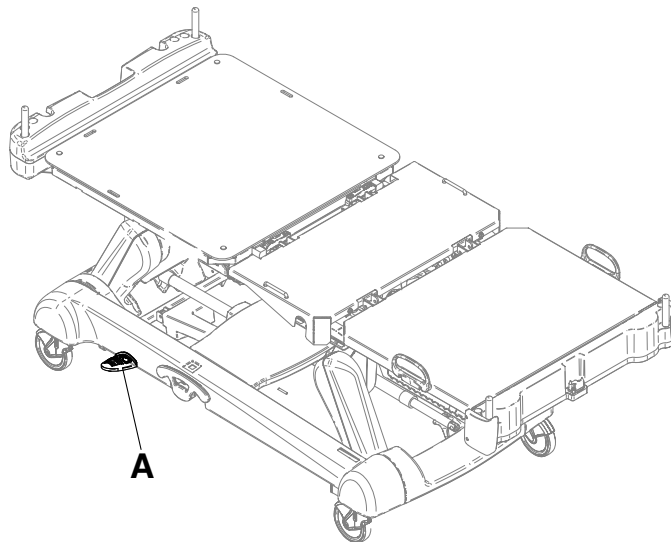

Figure 10: CPR release pedal
Two instant CPR release pedals are located at the head end section on both the left and right sides of the litter (A) (Figure 10 on page 28).